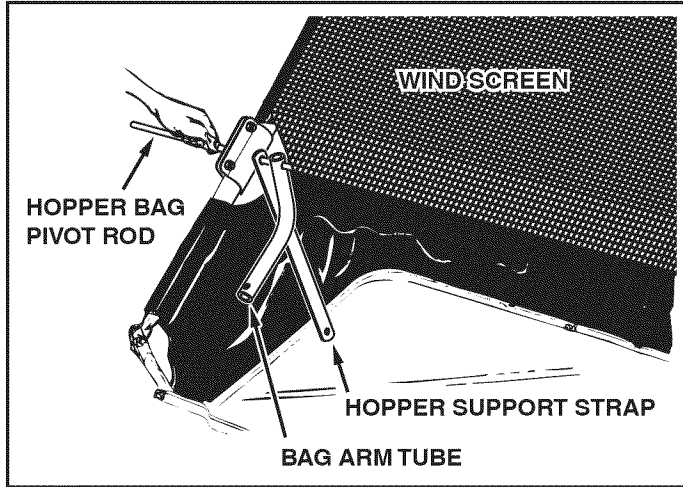

FIGURE 14
- Slide the end of the pivot rod through the upper hopper tube and the hopper mount clamps on one side of the hopper. Place a hopper support strap and then a bag arm tube onto the rod. Slide the rod through the stitched sleeve at the front edge of the wind screen, and then place another bag arm tube and a hopper support strap onto the rod. Slide the rod through the other upper hopper tube and hopper mount clamps. See figure 14.